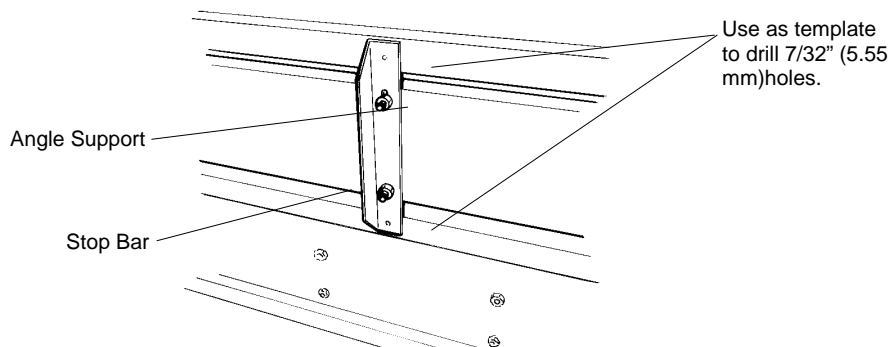

Figure 9: Installing the Stop Bar
2. Working from the front of the tool, attach the three angle supports (Figure 9) to the back of the Stop Bar, using six 5/16 x 3/4" (7.9mm x 19.05mm) hex-head cap screws and nuts. Tighten the nuts securely.